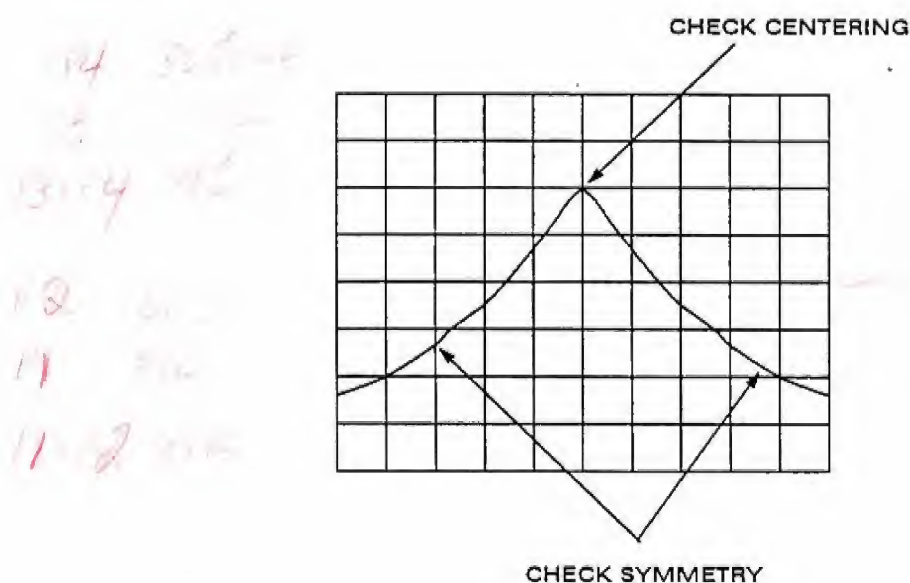

Figure 2-9. Adjusting Crystal Symmetry and Crystal Centering
11. Press **FREQUENCY** and use the RPG to center the bandpass spike (Figure 2-9) on the analyzer display.
12. Adjust the A13C54 CTR for minimum signal amplitude. Then adjust the A13C38 SYM and A13C54 CTR for a centered and symmetrical bandpass, as shown in Figure 2-9.